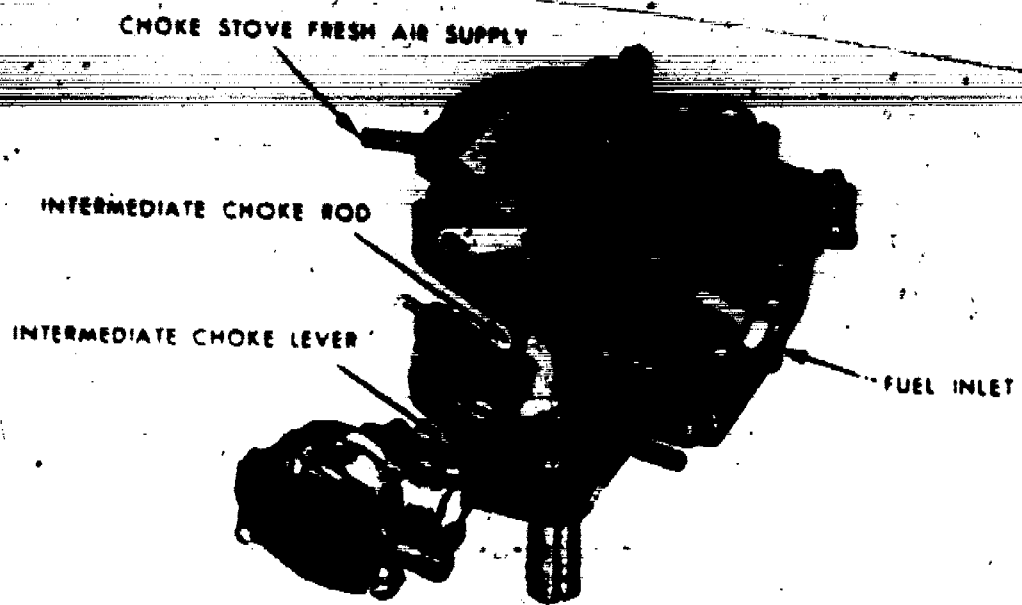

Figure 128.
at this time. A carburetor consists of three main assemblies: (1) the air horn (top of the carburetor, also called bowl cover), (2) the main body, and (3) the base or throttle flange. To disassemble a carburetor, disconnect any linkage between the three main assemblies, second remove the screws that hold the assemblies together, and third, after separating the three main sections, disassemble each one according to manufacturers procedures. Figures 128 thru 136 illustrate the disassembly of a Rochester 2GC (two barrel carburetor). Figures 128, 131, 132, 133 and 135 through 141 show the identification of the various operating parts and the fuel and vacuum passages.